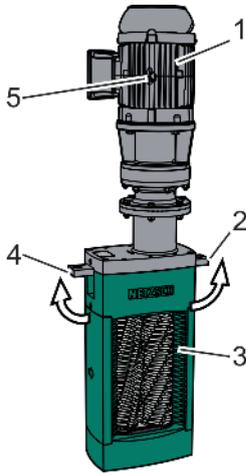

Fig. 29: Attaching the machine, example with drive
Fold out the transport eyes (Fig. 29/2, 4) on the machine (Fig. 29/3).
2. Attach suitable lifting equipment to the transport eyes (Fig. 29/2, 4).
3. Attach lifting equipment to the transport eyes (Fig. 29/5) over at a suitable location to secure the drive (Fig. 29/1) against tipping.